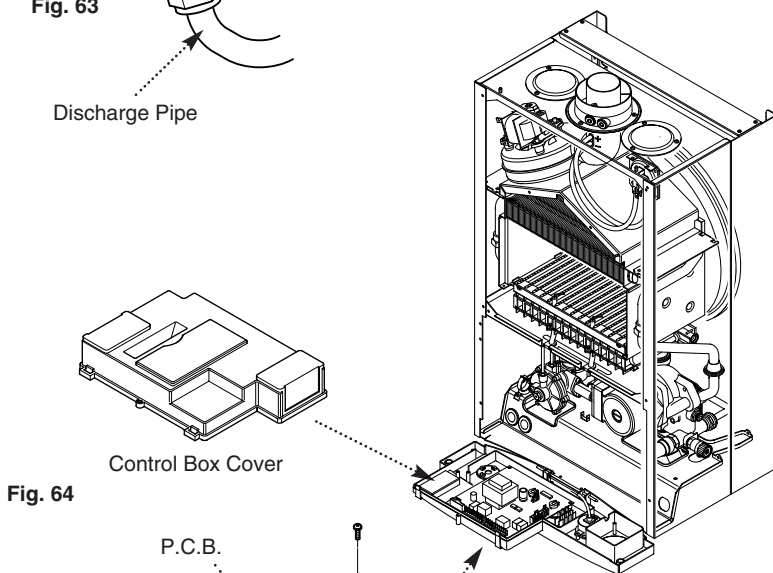

Fig. 64
2. Remove the screws securing the control box cover and release the cover retaining barbs from their slots. Disengage the rear of the cover from the control box hinge pin (Fig. 64).